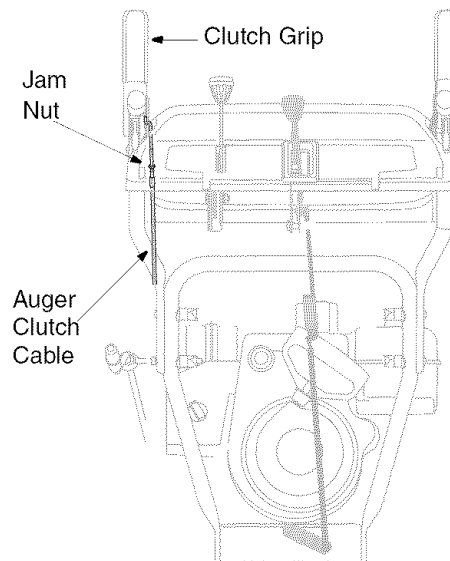

Figure 8
- If adjustment is necessary, loosen the hex jam nut and thread the cable in (for less slack) or out (for more slack). See Figure 8.